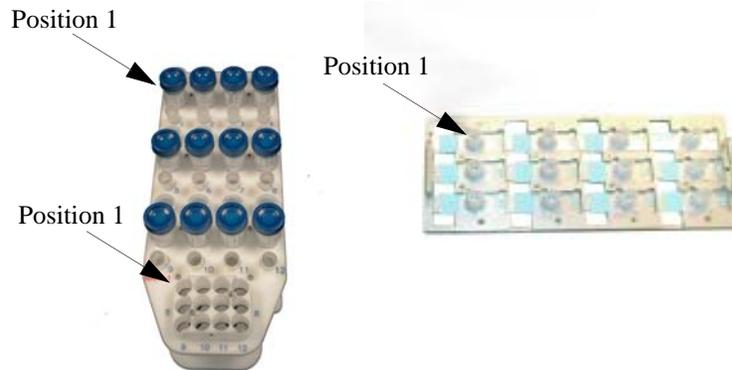

Figure 7 BD PrepMate specimen rack to slide tray row & column correspondence
- Confirm that each tube is labeled the same as its corresponding specimen vial (i.e., the vial loaded in the same row and column). The correspondence between rows and columns in the specimen rack and the BD PrepStain slide tray is illustrated in *Figure 7*. The illustration identifies the location of Position 1 (row 1, column 1) in three places: the syringe, vial, and tube rows on the BD PrepMate specimen rack; the centrifuge rack rows; and the rows on the slide tray.